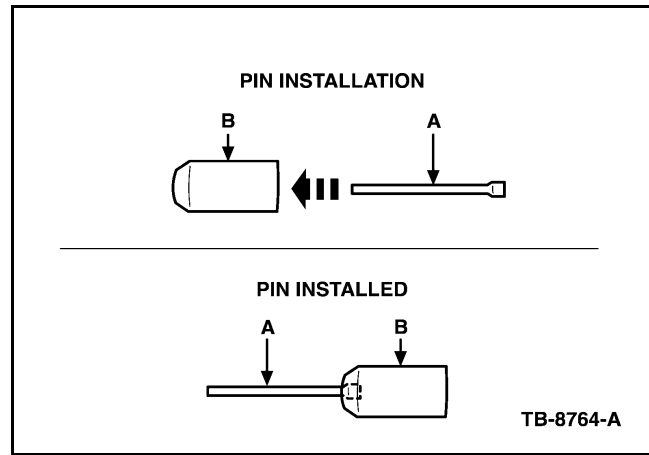

Figure 11 - Article 08-7-6
3. Insert a pin (A) into the collet (B). Screw the collet onto the threaded rod (C). Install the assembled collet, pin, and threaded rod into the steel tool pilot (F). (Figures 11 and 12)